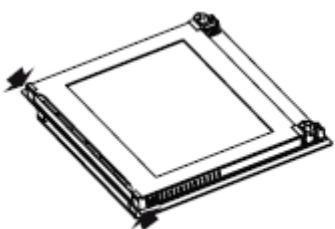
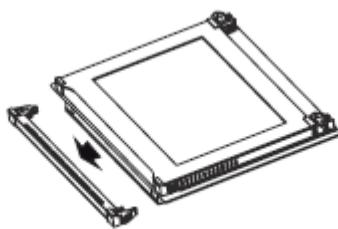
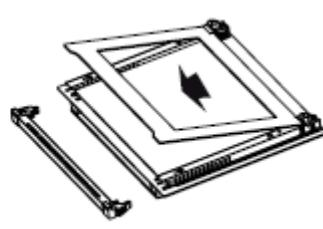

Figure 10
Figure 11
Figure 12
1. Press the plastic latches on the left and right sides as shown in Figure 10 and lift the profile by pulling it towards you as shown in Figure 11. Glass will be free after the profile is removed as shown in Figure 12. Carefully pull the glass that has become free toward you. If necessary, the middle glass can also be removed in the same way. The outer glass is fixed to the oven door profile. You may easily clean the glasses after they have been separated. Once the cleaning and maintenance is complete, you can replace the glasses and the profile by performing the removal procedure in reverse. Make sure that the glass is inserted in the correct direction and that the profile is seated properly.